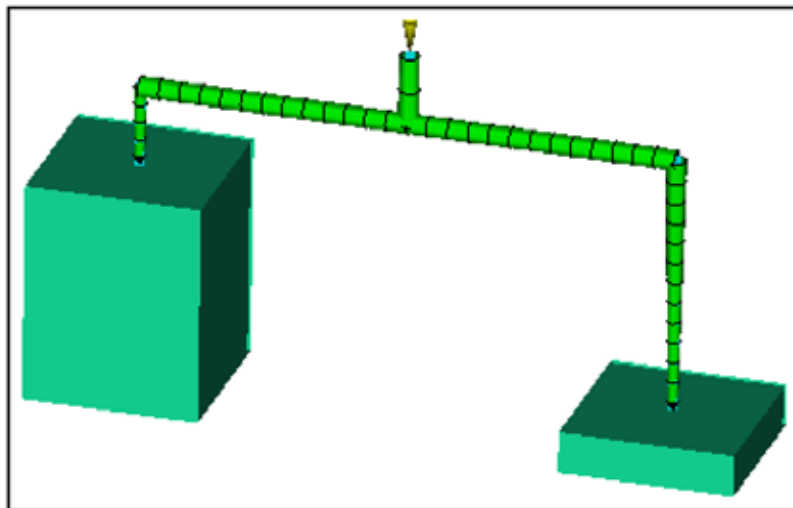

Figure 121: Completed runner system
- The runner system should look like Figure 121.